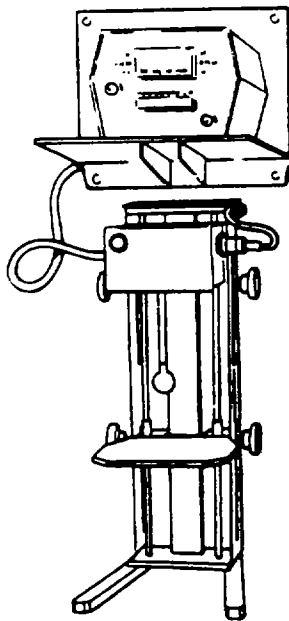

Figure 1-10. Viscometer Set
(1) The computer cabinet contains the primary components of the AOAP SDS. Suspension slides are provided for the computer power unit, disc power unit, and the 13.4 megabyte disk drive. The floppy disk drive is hard mounted in the cabinet frame.
(2) An interface panel located at the rear of the cabinet contains the bulkhead connectors and cabling required to interface the internal cabinetry components to the peripheral devices (i.e., the terminals and cathode ray tube monitors, the printer, and the spectrometer).
(3) All cabling is shielded and grounded to the cabinet frame. The frame is then grounded to the van. The cabinet rear interfaces with the equipment plenum. Airflow deflectors are provided to insure adequate ventilation and proper environment for the computer and its components. Nonventilated disk storage is provided at the top of the cabinet.
(4) The three integrated terminals and the line printer are not located within the computer cabinet. One terminal and the printer are located in the rear (entry/receiving) compartment. Initial sample documentation, data entry, and correlation are performed at this position. The second terminal is adjacent to the computer cabinet and spectrometer; in-process data entry is performed at this position. The third terminal is located at the physical property processing area.
(5) When interfaced with the spectrometer, the AOAP data system provides current and historic wear metal content analysis not available in any other form. The data can be formulated to satisfy the individual commander's requirements and provide rapid status reports of flight and materiel readiness.
c. *Viscometer Set (Figure 1-10).* An electronic device used to determine the relative viscosity of the oil sample. The unit is located on the curbside wall. The unit provides a 3 1/2-inch digital panel meter for simple readout of the sample viscosity.